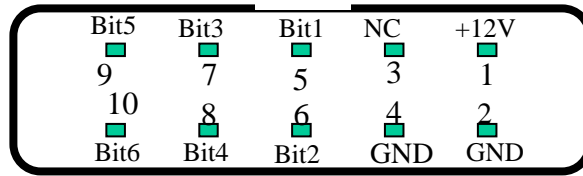

Fig. 2 Pin assignments for the electronic input header on the rear panel of the package
1. The pin connection assignment is illustrated in Fig. 2. Pin 1 is +12 volts. Pins 2, 4 are connected to ground. Pins 5, 6, 7, 8, 9 and 10 are assigned to represent TTL control binary signal bits 1, 2, 3, 4, 5 and 6, respectively, where bit 6 is the most significant bit (MSB) and bit 1 is the least significant bit (LSB).